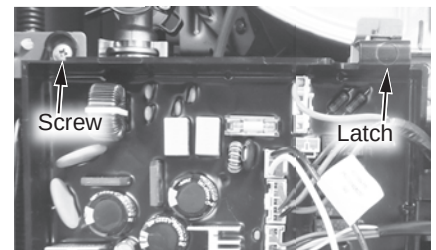

Figure 186 - Control board location
- 11 Locate the two (2) screws at the bottom of the cabinet cover. Use a Phillips screwdriver to remove the screws. Place screws aside in a safe place for reinstallation.
- 13 Locate the screw securing the control board panel as shown in Figure 186. Use a Phillips screwdriver to remove the screw and place it aside in a safe place for reinstallation.